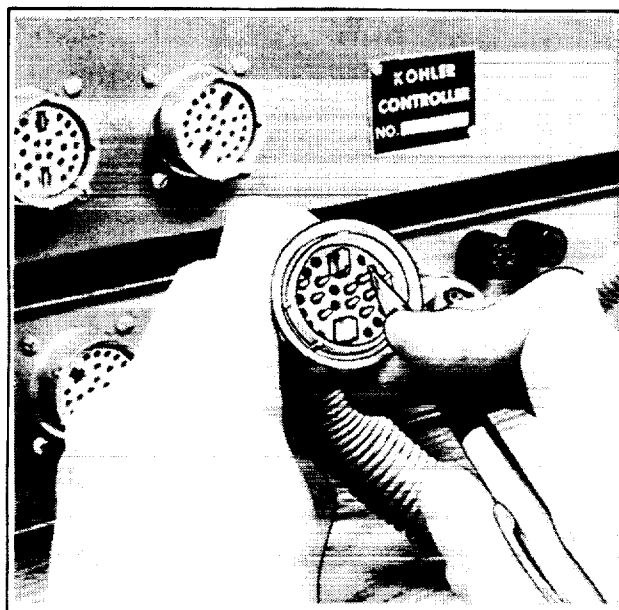

Figure 7. P5 Plug, Pin Position
Interconnection wire harness (to P2 and P5 connectors) may already contain leads to Emergency Stop circuit. Check P5 plug for pin at position B (Figure 7). If pin is present, wiring is complete, go to TESTING procedure following. Otherwise, continue to Step 8.
8. Open P5 plug harness clamp and push pin of supplied 26 in. (66 cm) lead 30 into rear of P5 plug at position B (Figure 7). Close P5 plug harness clamp.